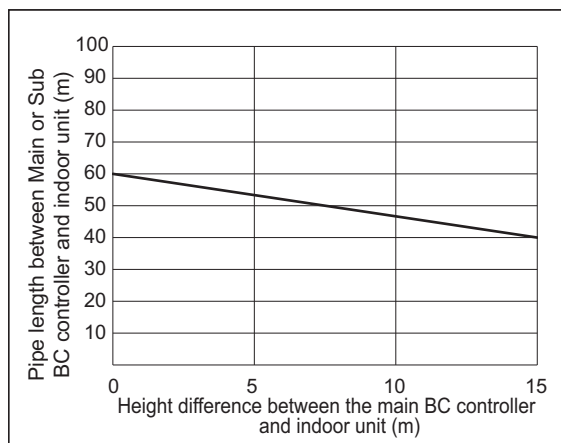

Fig. 2
*2. Details refer to Fig. 2.
*9. When the piping length or the vertical separation exceeds the limit specified in Fig. 2, connect a sub BC to the system.
When using indoor models P/M140 or larger, the restrictions shown in Fig. 2 cannot be exceeded.